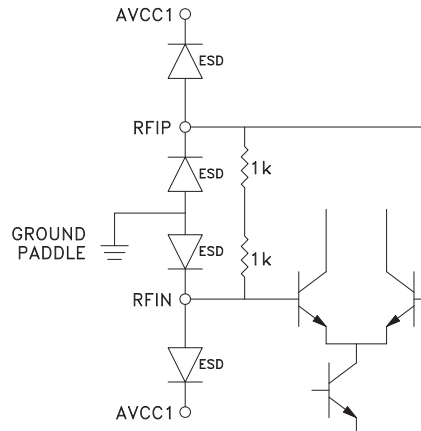

Figure 9. RF Input Stage
The RF input stage provides the path from the external VCO to the phase detector via the fractional divider. The RF input path is rated to operate nominally from 100 MHz to 7 GHz. The HMC700LP4(E) RF input stage is a differential common emitter stage with DC coupling, and is protected by ESD diodes as shown in Figure 9. The RF Input stage is internally matched from a single ended 50 ohm source above about 3.5 GHz, with the complimentary input grounded. If a better match is required at low frequency a simple shunt 50ohm resistor can be used external to the package.